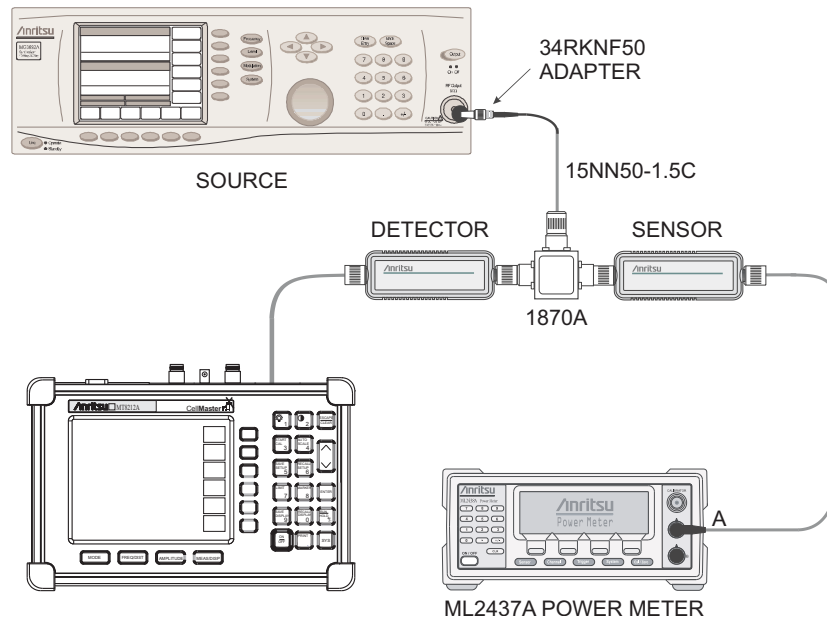

Figure 1. Power Monitor Verification Setup
6. Connect MG3692A, power meter, RF detector, Power Splitter and Power Sensor as shown in Figure 1.